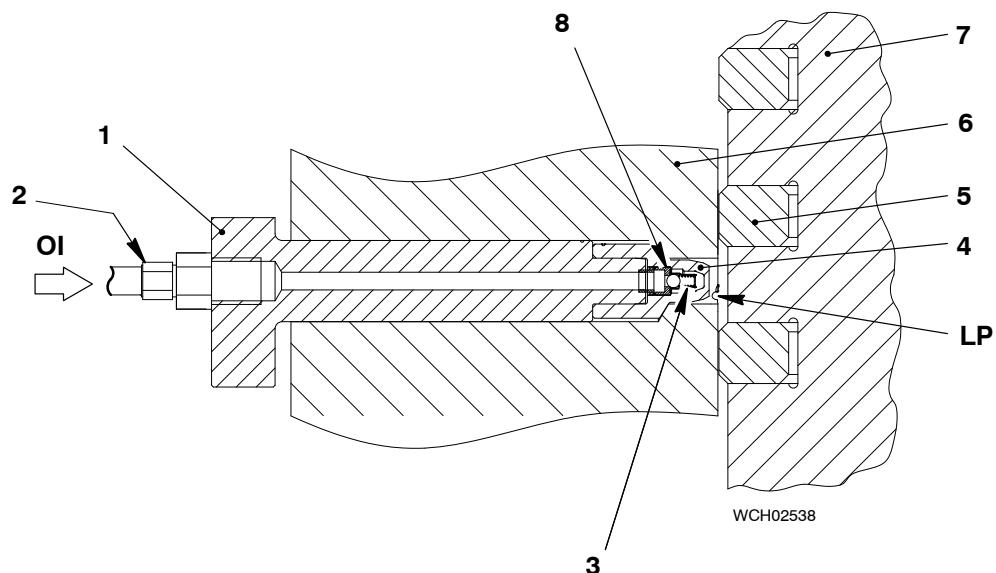

Fig. 2: Lubricating Quill
The lubricating pump supplies a set quantity of lubricating oil at high pressure through the connection (OI) into the lubricating quills (see Fig. 2).